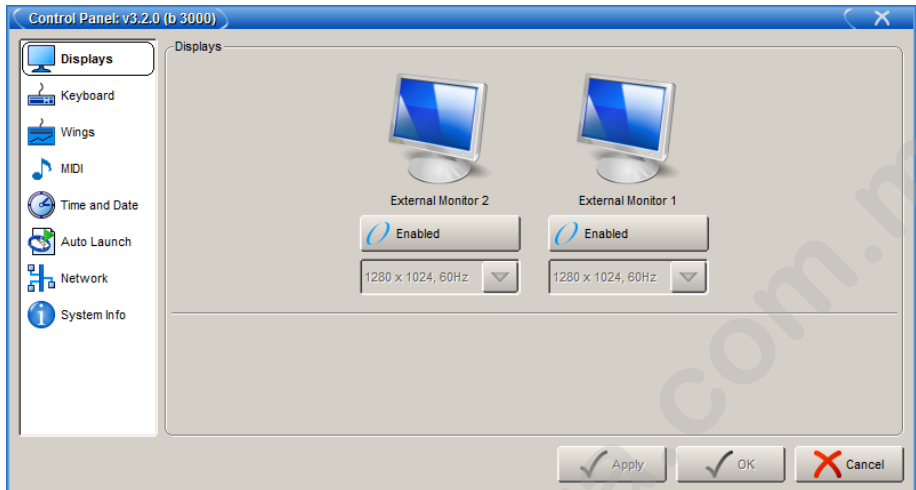

Figure 30.1. The Displays pane of the Control Panel
1. Setup → Control Panel → Displays : open the Displays pane of the Control Panel; see *Figure 30.1, “The Displays pane of the Control Panel”*.